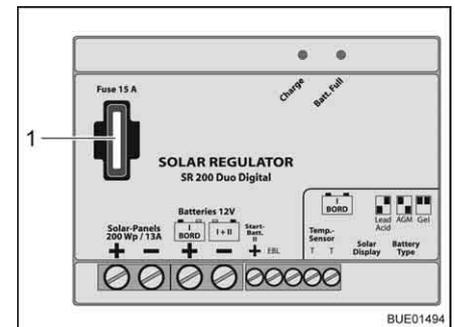

Fig. 152 Solar charge regulator fuse 200 W
- Replace flat fuse 15 A/blue (Fig. 152,1).